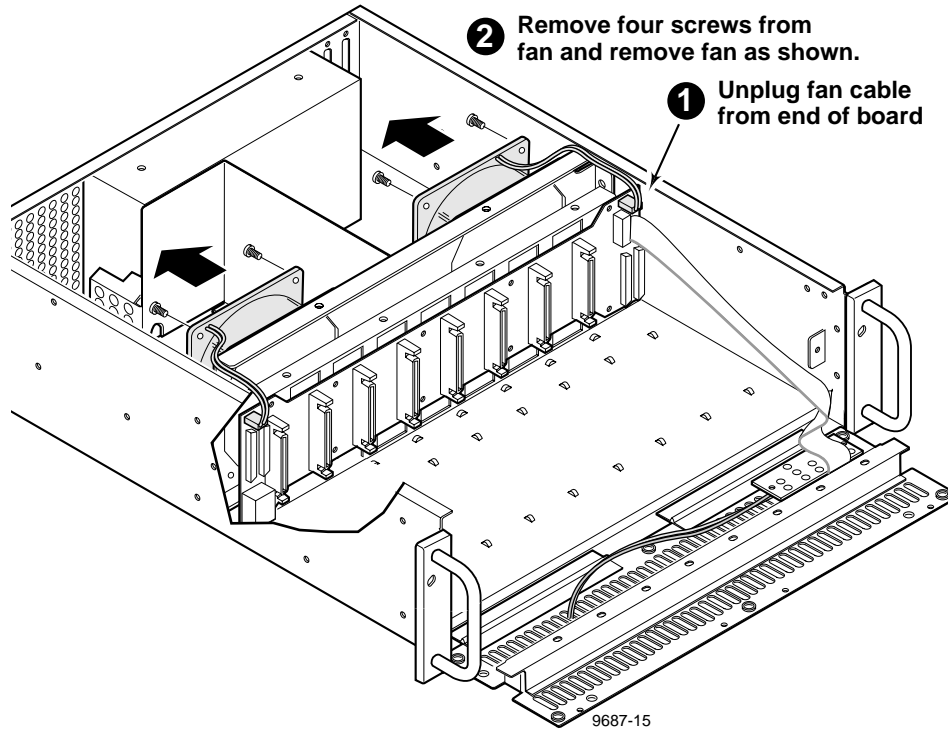

Figure 3-14. PDX208 Fan Removal
Figure 3-14 shows removal of a fan (item 2 in Table 3-1).
4. Disconnect the appropriate fan cable from the left or right side of the SCSI Distribution board (Figure 3-14).
1. Position the fan and mount with the screws previously removed (Figure 3-14)